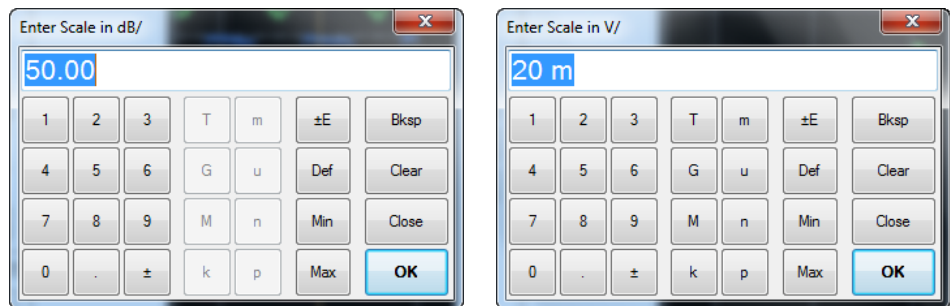

Figure 2-13 Vertical scale keypad dialogs
- 6 The vertical scale keypad dialogs are displayed as shown in Figure 2-13.